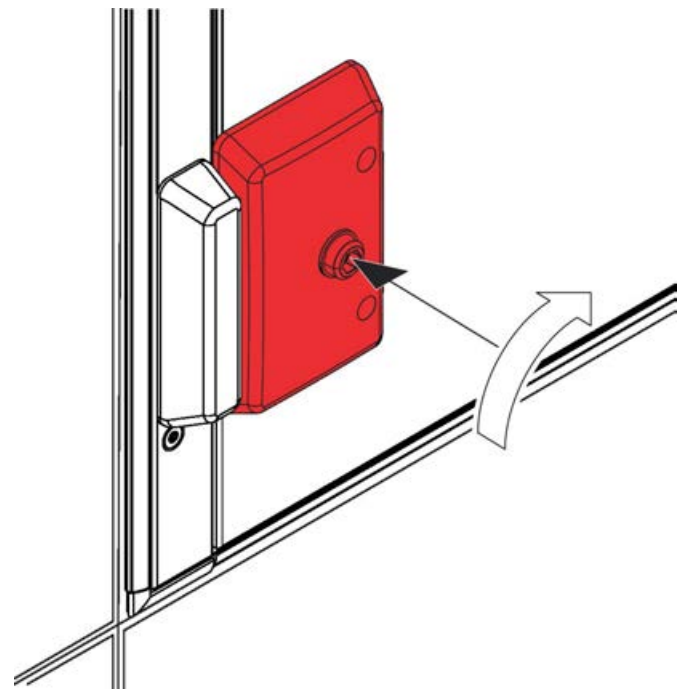

Fig. 15: Opening a lock with the special key (hazardous areas)
- ▶ Insert the TROX special key into the lock and turn it anti-clockwise as far as it will go (Fig. 15).